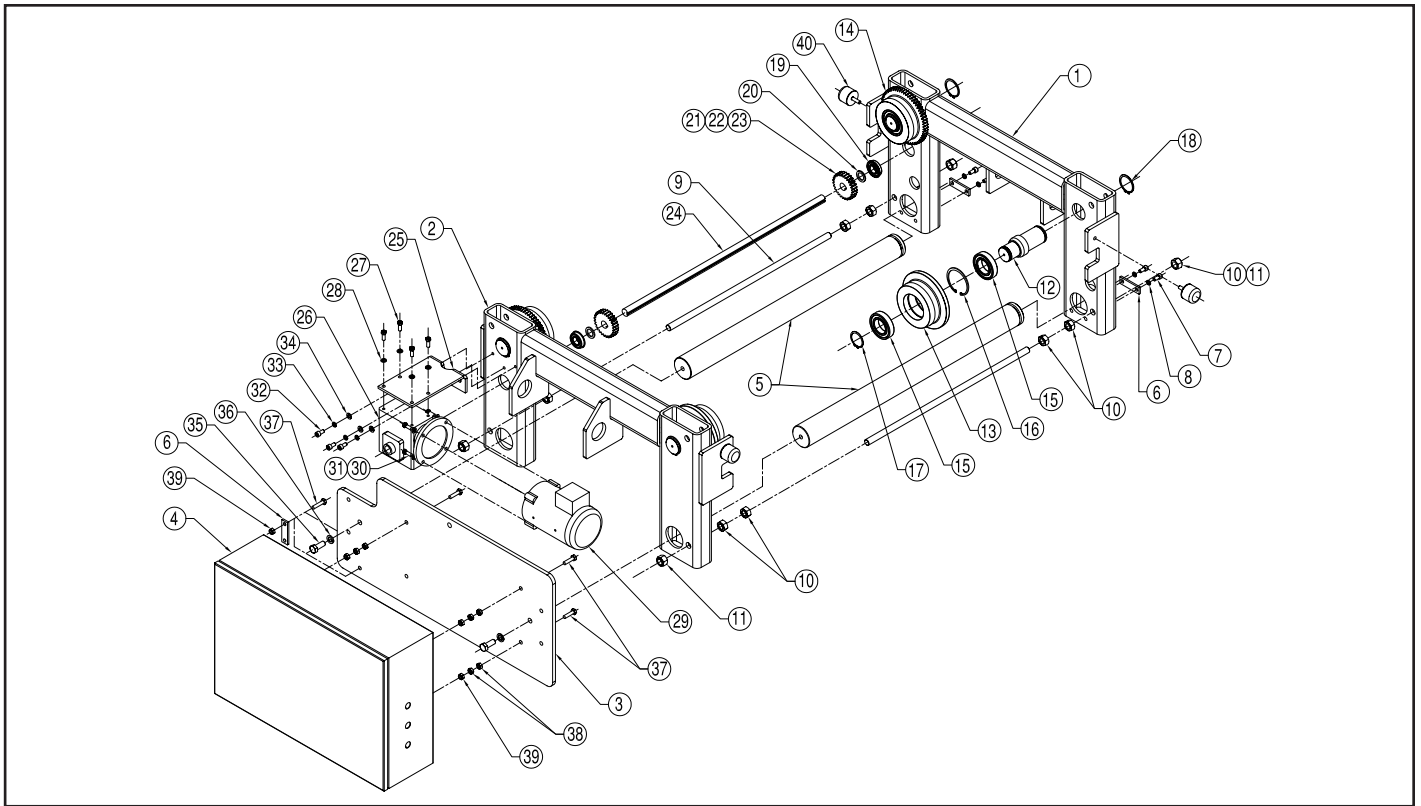

Figure 9-3. Motor Driven Trolley Frame and Drive ("C" Frame Shown).
"B" Frame: Trolley Frame and Drive Components for Figure 9-3.
**"B" Frame: Trolley Frame and Drive Components for Figure 9-3.**
**"C" Frame: Trolley Frame and Drive Components for Figure 9-3.**
"C" Frame: Trolley Frame and Drive Components for Figure 9-3.